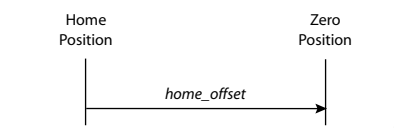

Figure 23: Home Offset
The home offset is the difference between the zero position for the application and the machine home position (found during homing). During homing the home position is found and once the homing is completed the zero position is offset from the home position by adding the home offset to the home position. All subsequent absolute moves are made relative to this new zero position. This is illustrated in Figure 23. Offset can either be set in User Units (UU) by writing to variable #240, or in encoder counts by writing to variable #241. Setting a value for either variable #240 or #241 will result in a value automatically being calculated and stored in the respective variable.